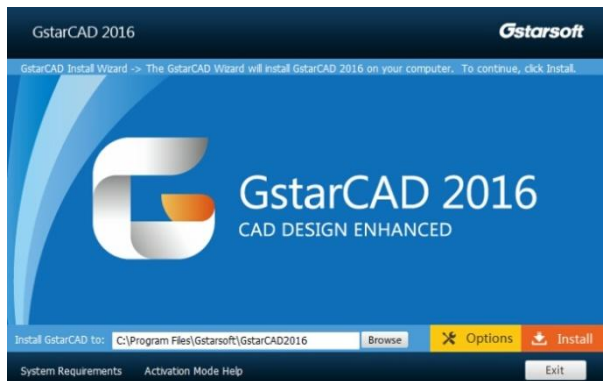

Figure 1-1
1.- Double-click the executable file downloaded and the "GstarCAD Install Wizard" dialog box will pop up. Click "Browse" and choose the destination path where setup will install the files and then click the "Options" button. See Figure 1-1.